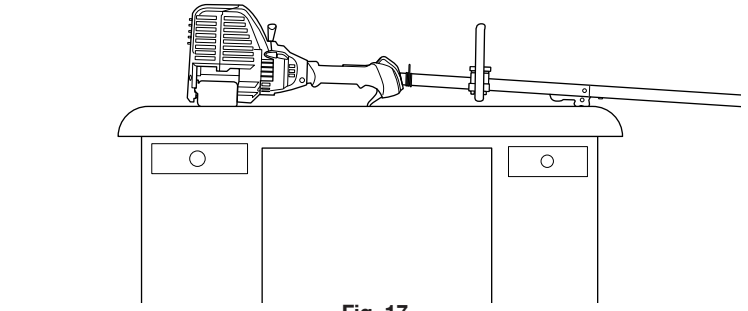

Fig. 17
2. **Set the unit on a flat, level surface**, such as a workbench or table. The cutting head shield should hang over the edge so that the engine is level (Fig. 17).